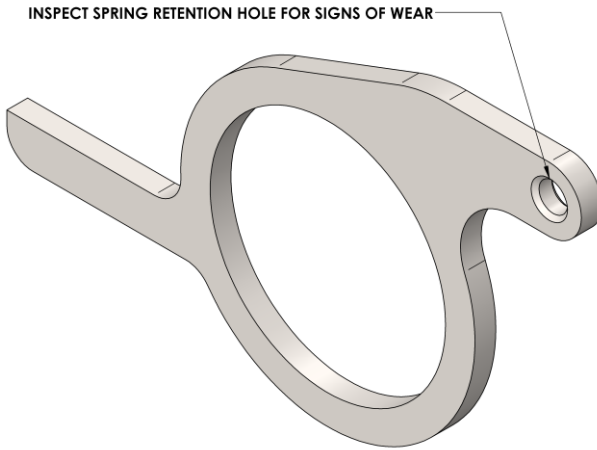

Figure 29: Inspect Spring retention hole for wear on spring arms.
25. Inspect the spring arms for wear as shown in Figure 29. If the spring retention hole show signs of wear such as indentations where the spring makes contact, the arms should be replaced.